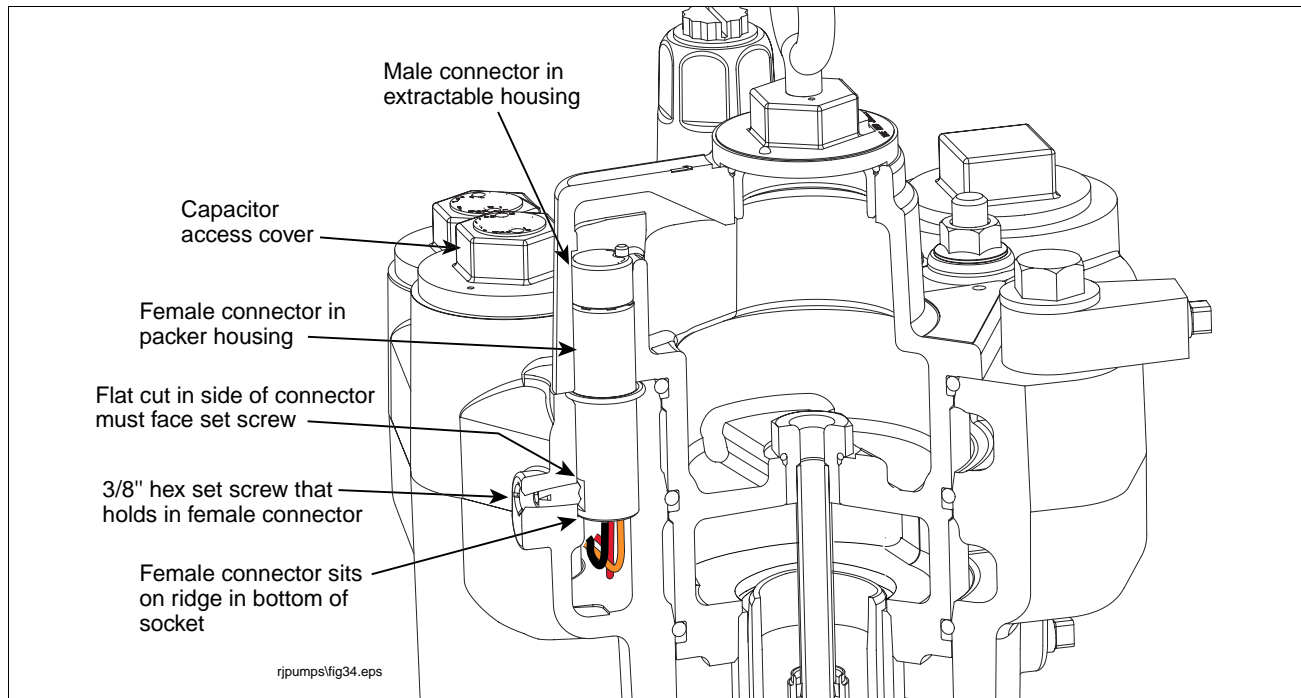

Figure 43. Locating female connector set screw
16. Using a 3/16" hex wrench, turn the set screw that holds the female connector in place about 1-1/2 turns counterclockwise until you can lift out the connector (see Figure 43). **Note: Do not try to remove the set screw.**